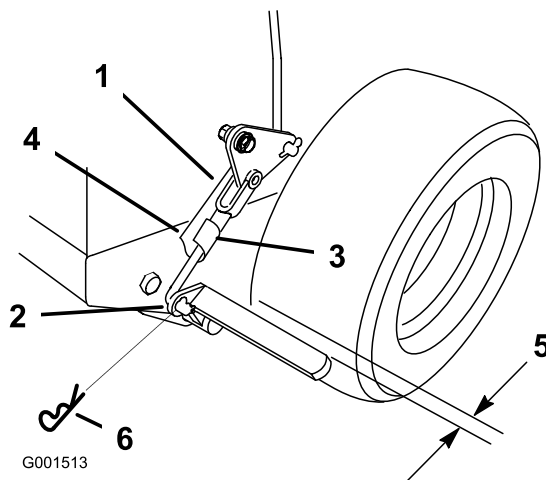

Figure 41
3. Remove the hairpin cotter from the lower brake link (Figure 41).
4. Rotate the lower brake linkage yoke clockwise into the yoke to tighten the parking brake; rotate the brake linkage yoke counterclockwise out of the yoke out to loosen the parking brake (Figure 41).
5. Secure the lower link to the lower brake lever using the hairpin cotter and the clevis pin (Figure 41).